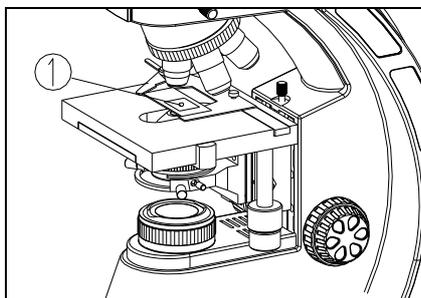

Fig. 20
2. Place a drop of oil ① on the specimen (see Fig. 20).